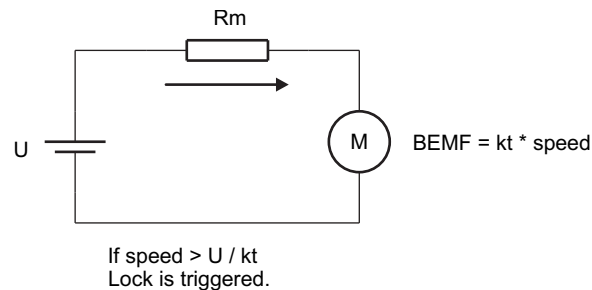

Figure 11. BEMF Monitoring
If the motor is in normal operation the motor BEMF will always be less than the voltage applied to the phase. The DRV10964 sensorless control algorithm is continuously updating the value of the motor BEMF based on the speed of the motor and the motor Kt as shown in Figure 11. If the calculated value for motor BEMF is higher than the applied voltage (U) for a certain period of time (t_{ON_LOCK}) then there is an error in the system. The calculated value for motor BEMF is wrong or the motor is out of phase with the commutation logic. When this condition is detected a lock detect is triggered.